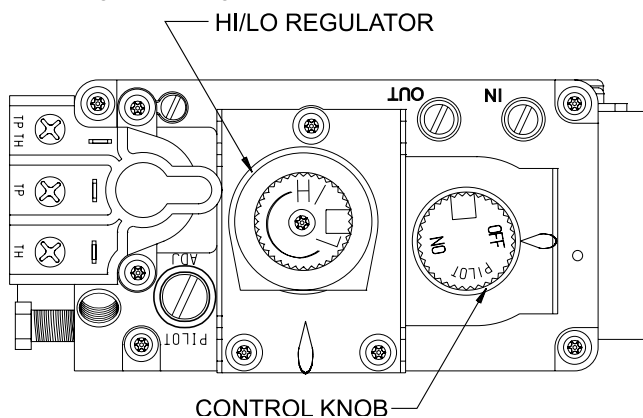

Figure 27
**NOTICE:** The gas control valve allows you to increase or decrease the height of the main burner flame. The control valve has a pressure regulator with a knob as shown in **Figure 27**. Rotate the knob clockwise to "HI" to increase the flame height and counterclockwise to "LO" to decrease the flame height.